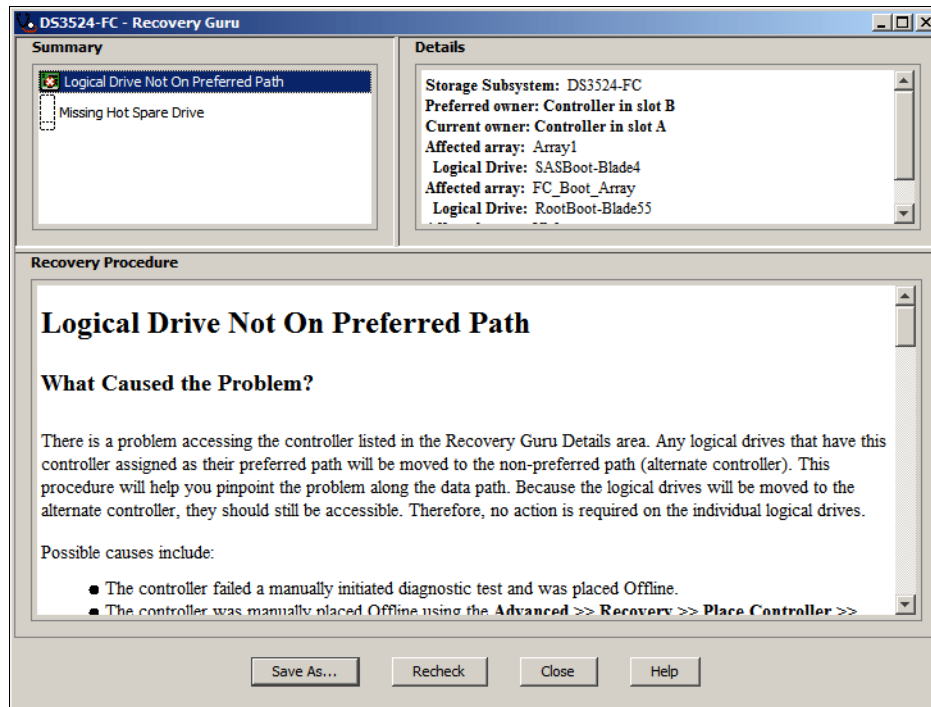

Figure 14-126 Recovery Guru
Click the **Recover from failure** link to launch the **Recovery Guru** as shown in Figure 14-126 on page 411.
- ▶ **Summary pane:** All detected problems are listed here. There are two separate problems listed in the example shown in Figure 14-126.